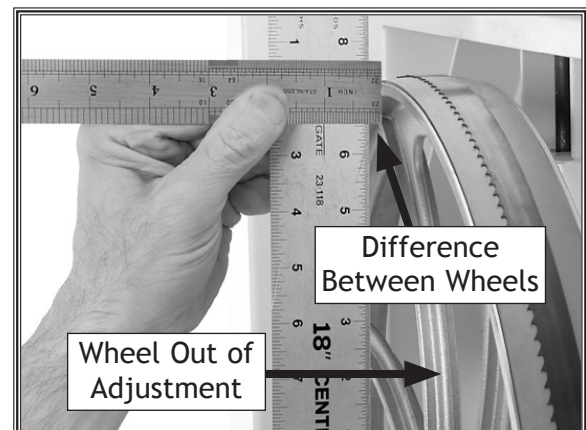

Figure 76. Determining distance needed to shim upper wheel.
3. With a straightedge touching both points of the wheel that does not need to be adjusted, measure the distance away from the wheel that is out of adjustment (see **Figure 76**).